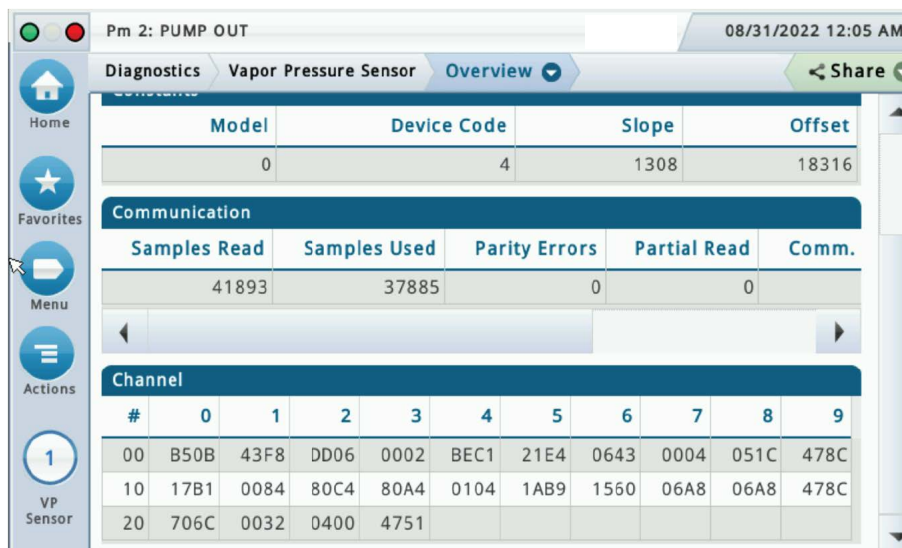

Figure 21. Vapor Pressure Sensor Overview Screen - Page 2
- The four tables in this screen display status information for the selected Vapor Pressure Sensor. Touch the scroll down arrow to view the rest of the Vapor Pressure Sensor data tables (see Figure 21).